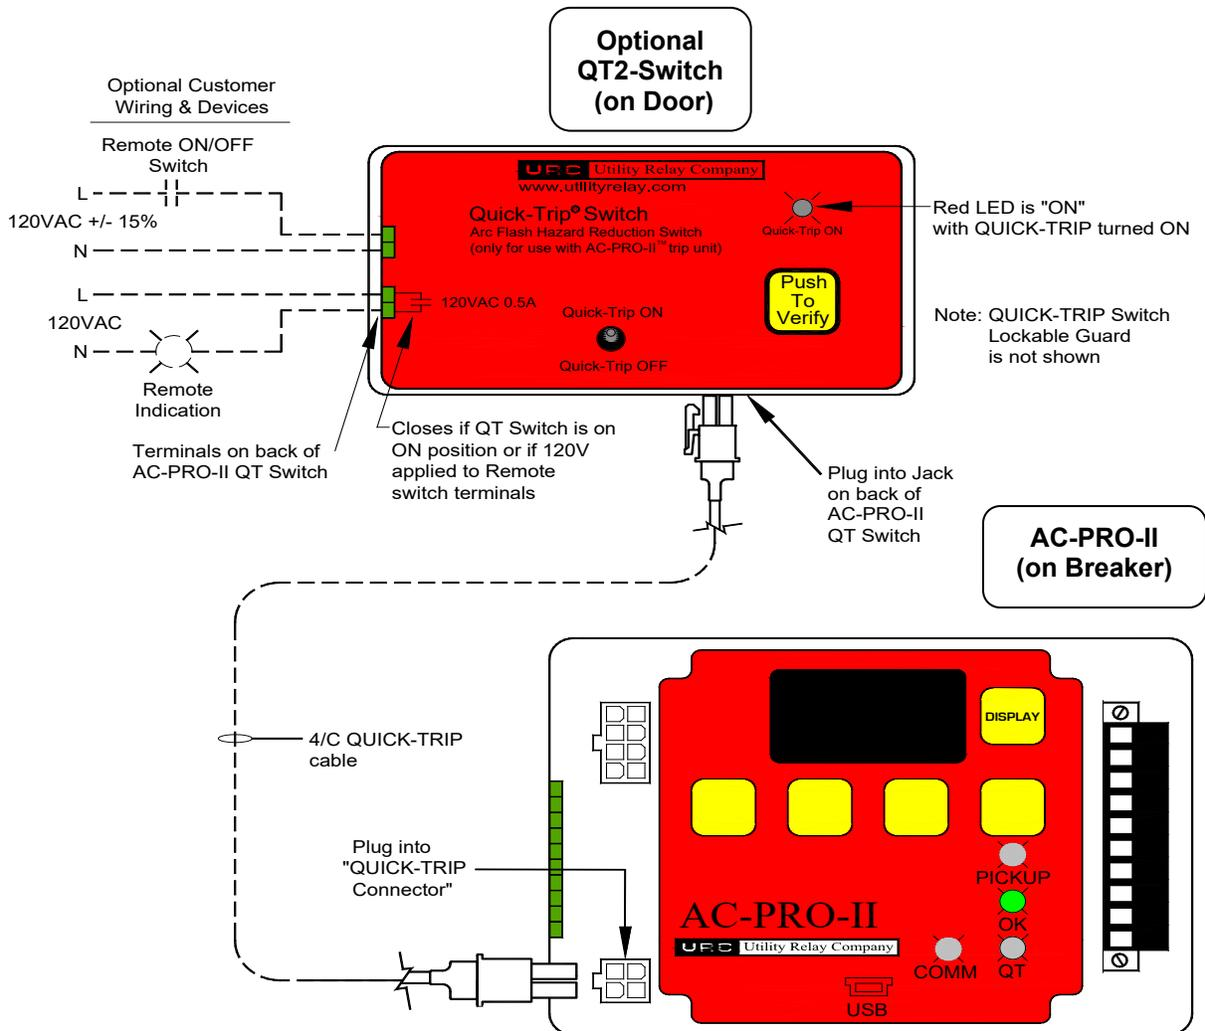

Figure 7.2: QT2-Switch Connections (Option #2, no display)
Option #2: AC-PRO-II:QT2-Switch (padlockable), and 4/C cable. Shown in Figure 7.2: QT2-Switch Connections (Option #2, no display). See <http://www.utilityrelay.com/products/QUICK-TRIP.html> for additional information. See this document for installation.
1. Find a suitable location on the cubicle door and mark the location of the three (3) holes using the dimensions in Figure 7.2.
2. Drill two (2) 1/4" mounting holes.
4. Attach the QUICK-TRIP Switch to the front of the cubicle door using the two (2) supplied 10-32 screws and lock washers.
Alternatively, the AC-PRO-II QT2-Switch includes terminals on the rear for connection to a remote QUICK-TRIP switch (provided by others). Refer to Figure 7.2: QT2-Switch Connections (Option #2, no display).
AC-PRO-II QT2-Switch includes terminals on the rear for connection to a customer-supplied remote QUICK-TRIP indicating light or other device. Refer to Figure 7.2: QT2-Switch Connections (Option #2, no display).